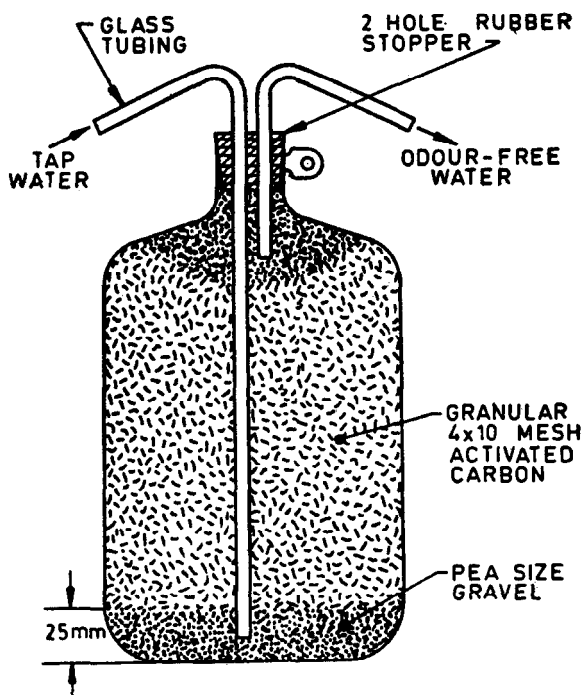

FIG. 1 ODOUR-FREE WATER GENERATOR
5.8 Odour — Free Water Generator — As shown in Fig. 1.